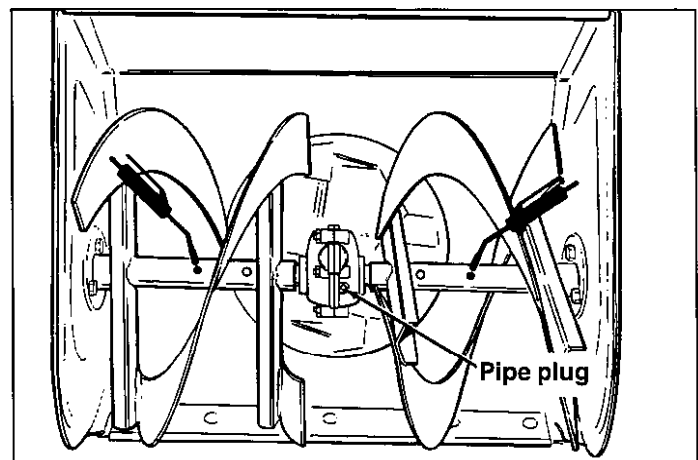
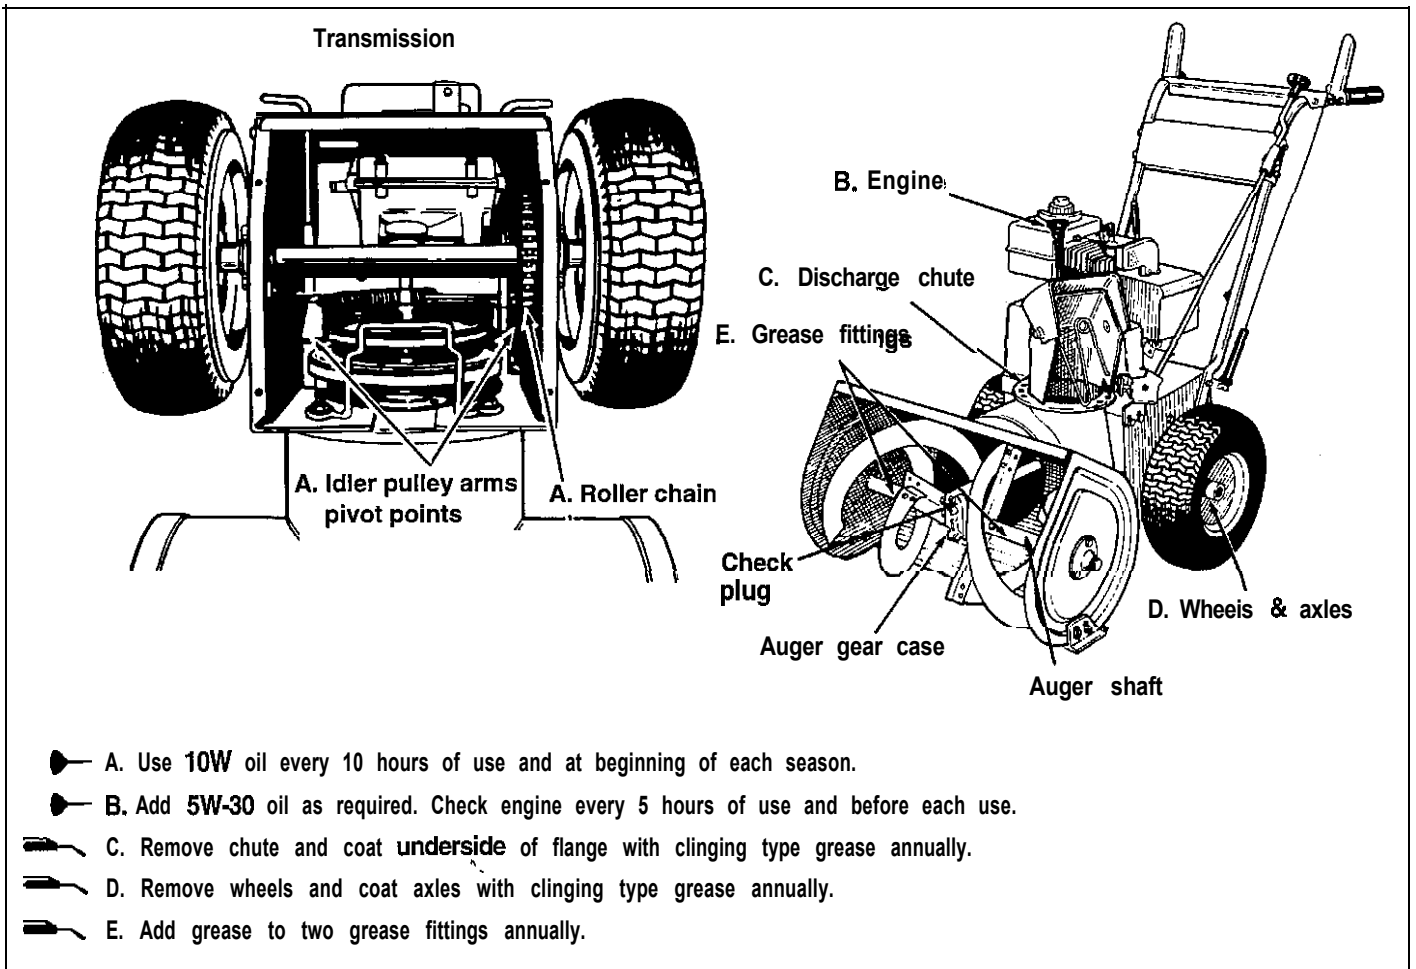

Figure 6. Checking Auger Gear Case Lubrication
Figure 7. Lubrication Points
2. Remove the pipe plug (A, figure 6). The lubricant should be level with the hole. If not, add Simplicity Winter Weight Worm Gear Oil (available from your dealer).
It is very important that grease fittings on auger shaft (figure 6) are lubricated regularly. If auger rusts to shaft, damage to worm gear may occur if shear pins do not break.
With an oil can, apply medium weight (10W) oil to points A & B shown in figure 7. There are two grease fittings in the auger shaft (figure 6). Wipe fittings clean and apply two or three shots of grease. Also, use grease on other points shown.